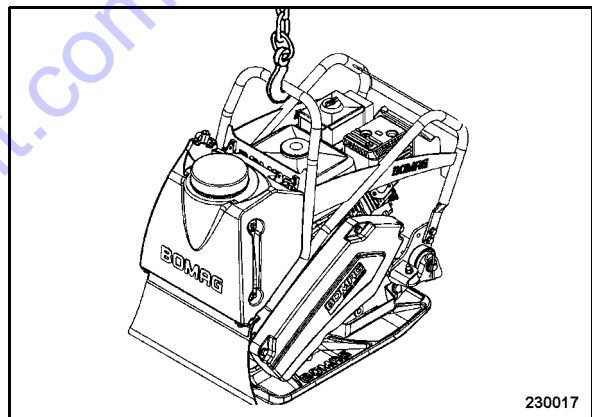

Fig. 25
- Attach the lifting tackle to the cross-strut to load the vibratory plate on a transport vehicle (Fig. 25).